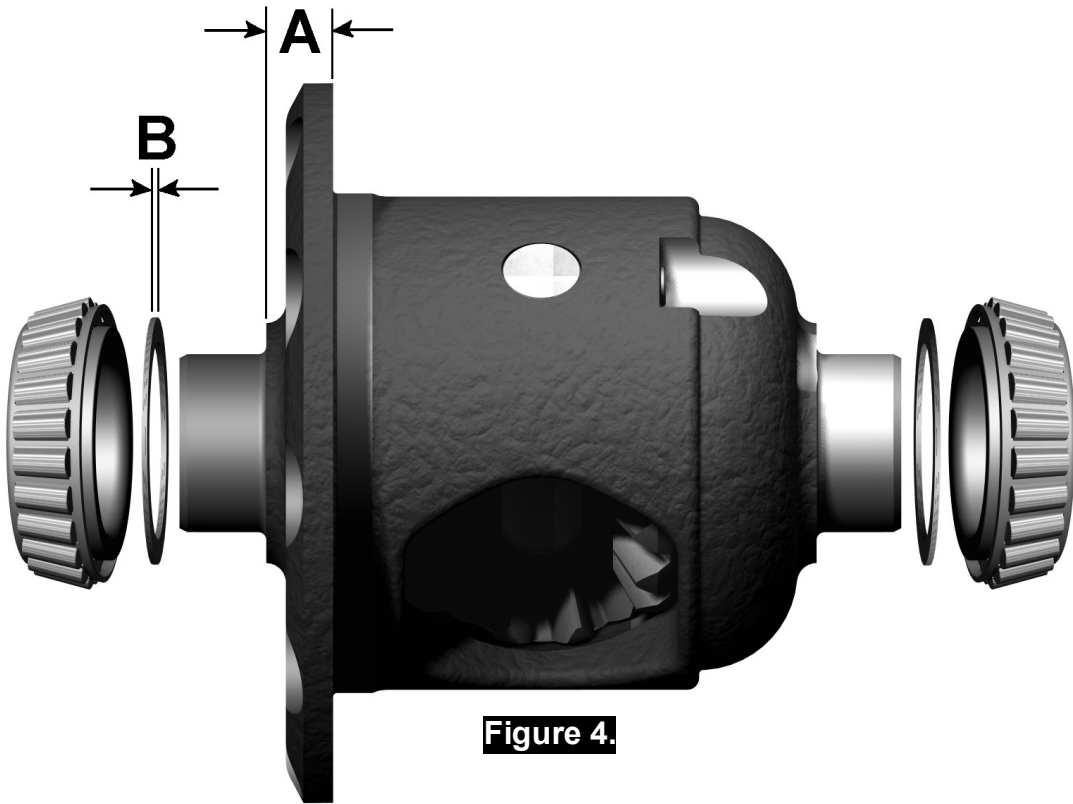
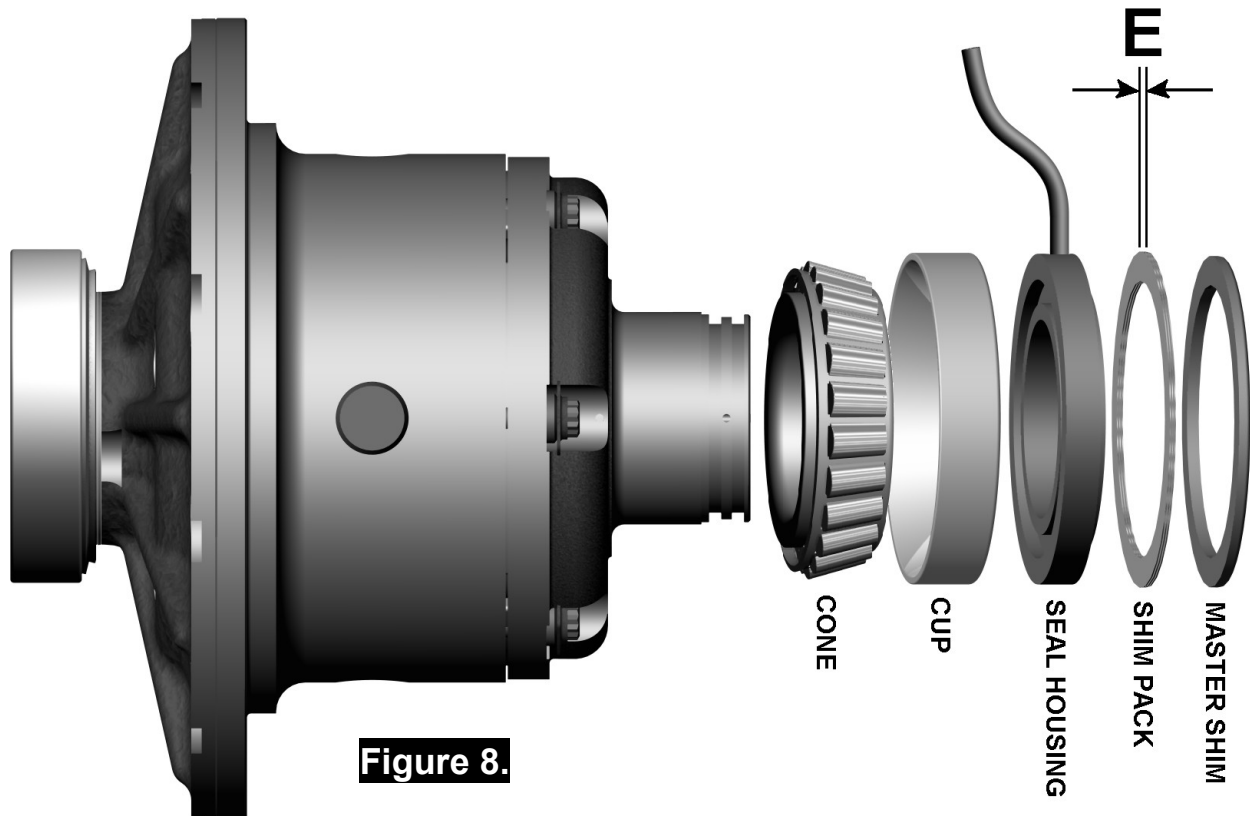

Figure 4.
Figure 8.
- Using a caliper or similarly accurate measurement method (i.e., able to take accurate measurements within 0.04mm [0.0015"]), measure the distance from the bearing shoulder to the ring gear mounting face (shown as 'A' in Figure 4.) and record this measurement as 'A'.
- Measure the thickness of the shim pack removed from the ring gear side of the differential carrier (shown as 'B' in Figure 4.) and record this measurement as 'B'.
- Place the bearing cup over the bearing cone (Figure 8.).
NOTE : The shim pack cannot be installed at this time as the required thickness (shown as 'E' in Figure 8.) has yet to be determined.
- Add the specified pre-load amount to the measurement taken with the feeler gauge to determine a shim amount for 'E' in Figure 8.
- Remove the *Air Locker* and assemble the shim pack onto the seal housing spigot behind the master shim (Figure 8.).
- To increase the amount of backlash, reduce the shim thickness 'D' (Fig. 4.) and increase the shim thickness 'E' (Fig.8.) by the same amount. Reverse this step to decrease the backlash.
- To increase the amount of backlash, reduce the shim thickness 'D' (Fig.5.) and increase the shim thickness 'E' (Fig.8.) by the same amount. Reverse this step to decrease the backlash.